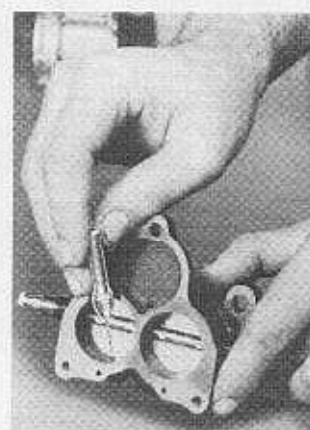

Fig. 25
**30** Clean out idle feed holes in throat above throttle plates as indicated in Fig. 25.